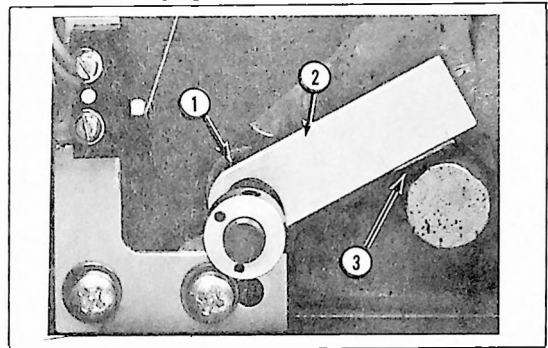

Figure 7-1
TAPE BREAK ARM ADJUSTMENT PROCEDURE (Figure 7-1)
- Take up tape slack and wind tape taut. From the rear of the transport loosen two 6-32 screws (1) on the switch actuating arm (2). (See Figure 7-1.)
- Manually set arm to "tape break" position as described in step (c), then return actuating arm (2) to upright position (tape must be taut) until pad (3) on actuating arm touches boss. Recheck position of tape between pinch roller and capstan shaft. Tighten